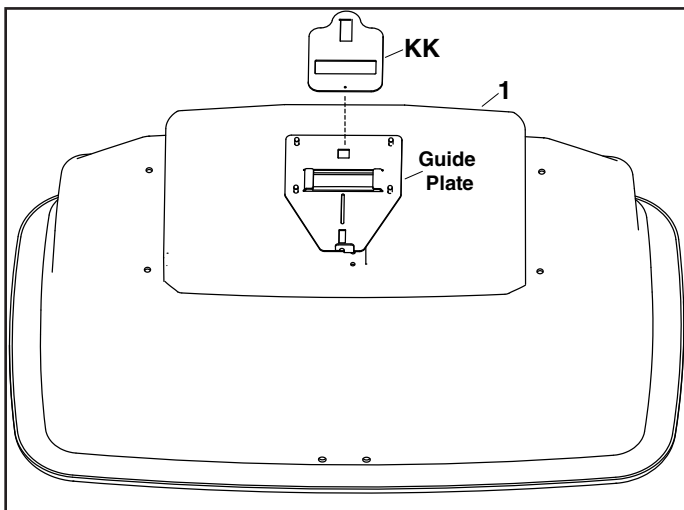

FIGURE 12
STEP 12: (SEE FIGURE 12)
- Place the hopper (1) upside down as shown in Figure 12.
- Install the flow plate (12) into the guide plate on the spreader. (Make sure flow plate is oriented correctly.)